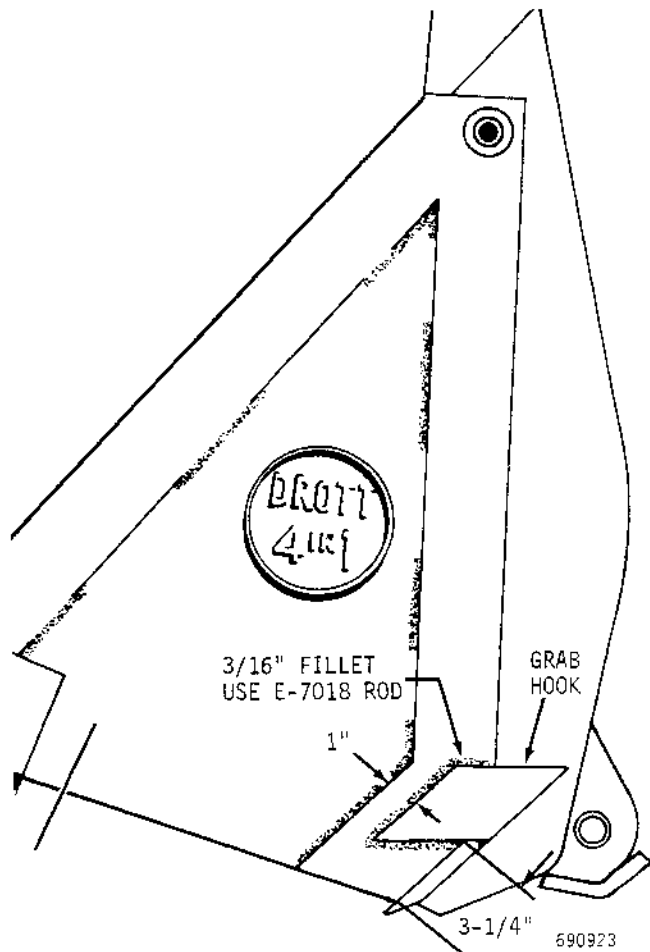

Figure 19 - Replacing Grab Hook
2. Locate and weld a new grab hook plate as shown in Figure 19.